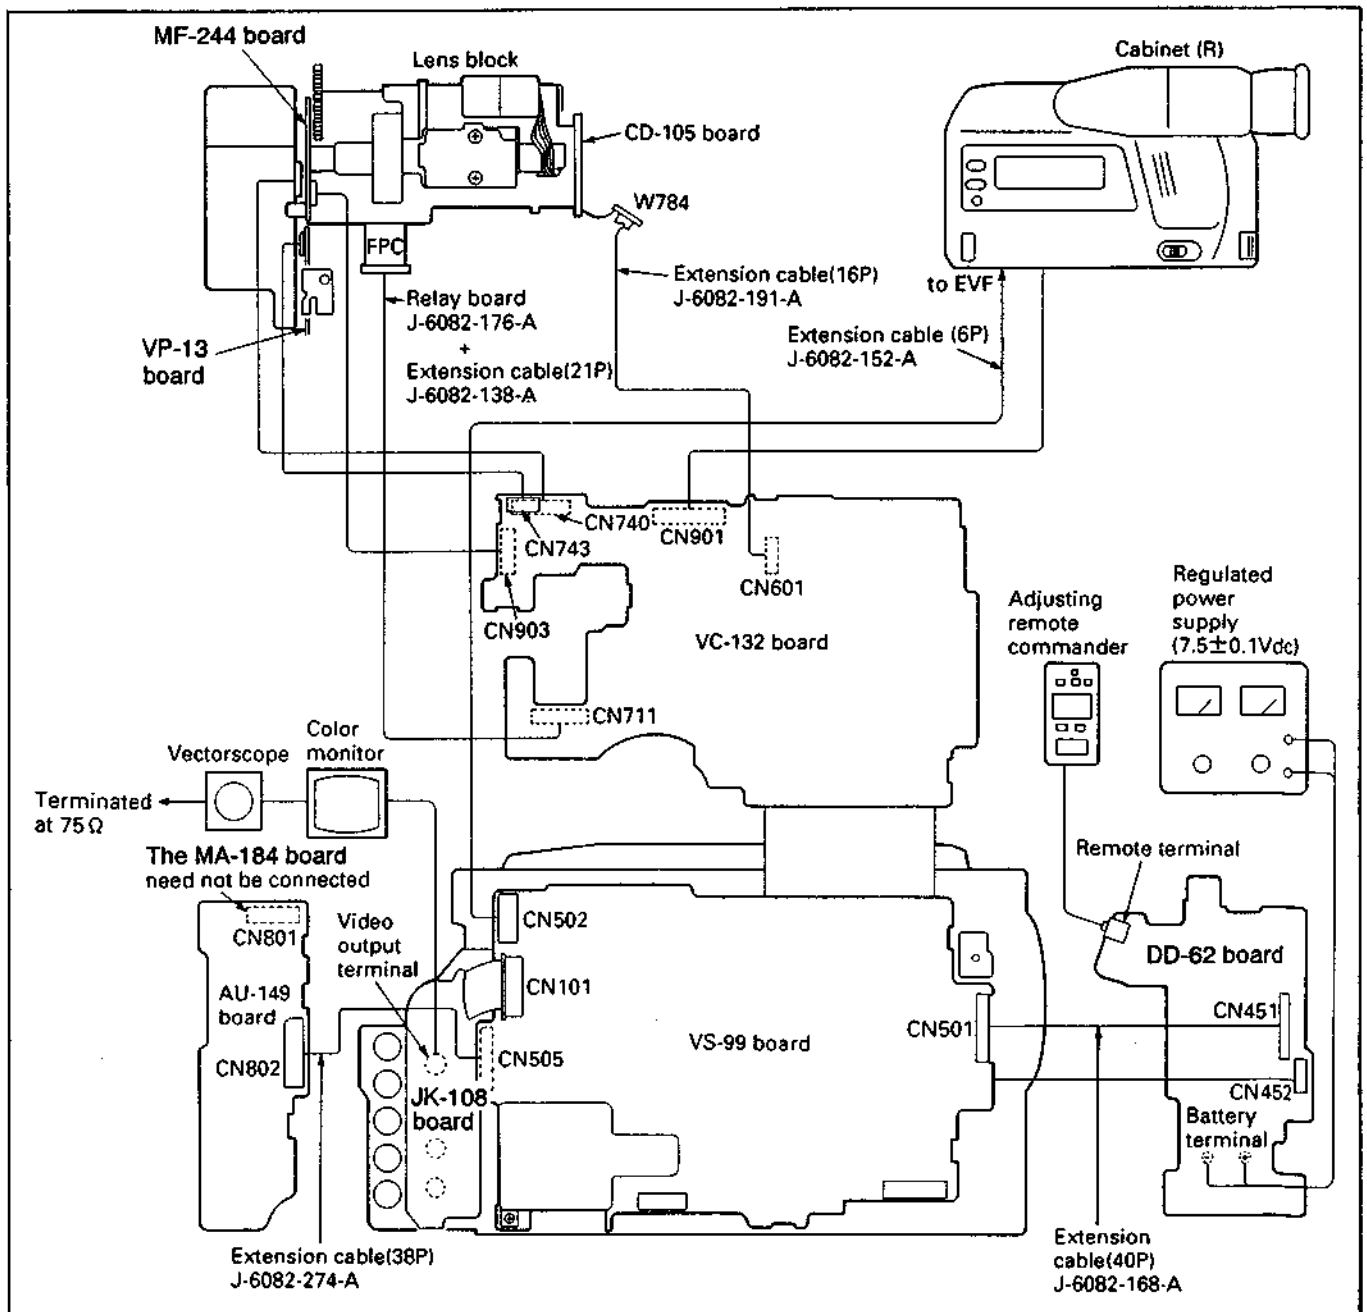

Fig. 7-3.
- 1) Connect the equipments for adjusting as shown in Fig. 7-3.